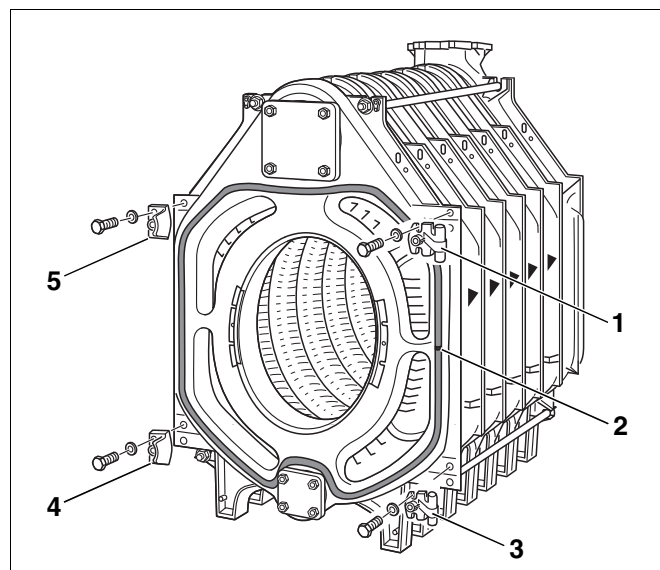

Fig. 31 Fitting the hinge pins and locking strips
- Place a few drops of Silastik adhesive, 15–20 cm apart in the packing grooves (Fig. 31, [2]) on the front section (Fig. 31).
- Insert GP packing cord into the packing groove on the front section. The packing cord joint should be located at the side (Fig. 31, [2]).
- Screw each hinge pin (right-hand closure) to the front section with two machine bolts M12 × 55 (Fig. 31, [1] and [3]). For left-hand closing, secure accordingly on the left-hand side.
- Screw on locking strips with run-on slopes for the burner door (right-hand closing) to the front section with 2 machine screws M12 × 55 (Fig. 31, [4] and [5]). For left-hand closing, secure accordingly on the right-hand side.